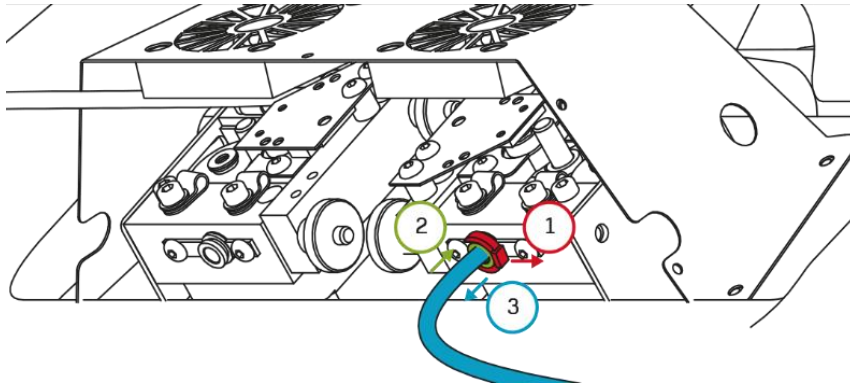

Fig. 67 Pulling out the bowden tubes from both extruders
3. Pull out the bowden tubes from both extruders (fig. 67). To do that:
- remove the collet clip (fig. 67, step 1),
- push and hold the protective ring down (fig. 67, step 2), at the same time pull out the bowden tube (fig. 67, step 3).